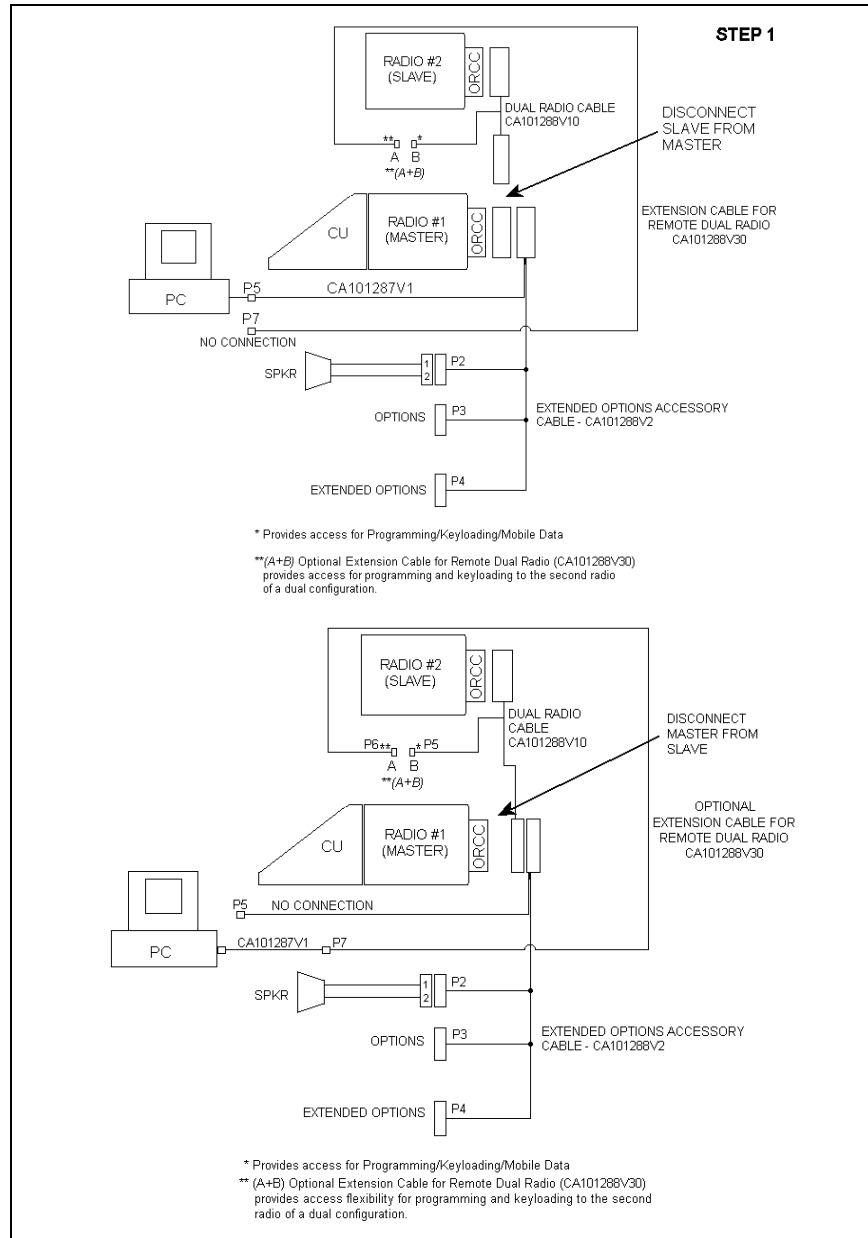

Figure 33 – Dual Radio Configuration – Front/Remote Mount – PC Programming Procedure
Step 1 Configure the M7100^{IP} Master Radio per the ProGrammer setup shown in Figure 33, Step 1, with the Slave Radio disconnected. Program the Master Radio with the control configurations per the Pre-Installation Programming Procedure with ProGrammer – Dual Radio Units and adjust as necessary for the desired application.
Step 2 Now configure the Slave Radio with ProGrammer as shown in Figure 33, Step 2. The Slave Radio should now be disconnected with the Slave Radio connected as shown. Program the Slave Radio with the configuration per the Pre-